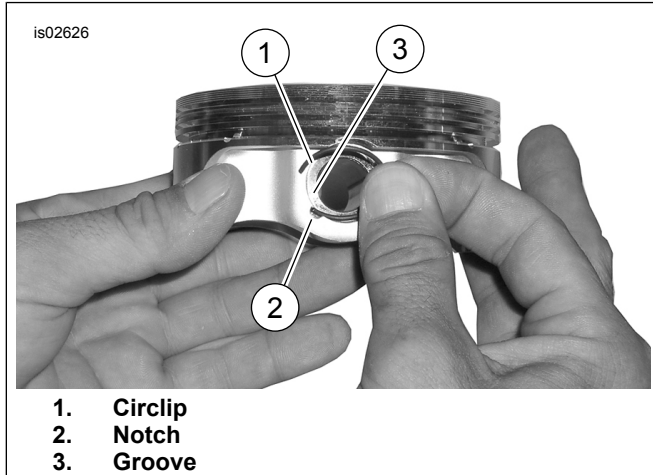

Figure 3. Circlip and Piston
- See Figure 3. Insert the open end of the circlip (1) into the notch (2) on the groove (3) around the piston pin boss so the gap is at the 12 or 6 o'clock position when installed.